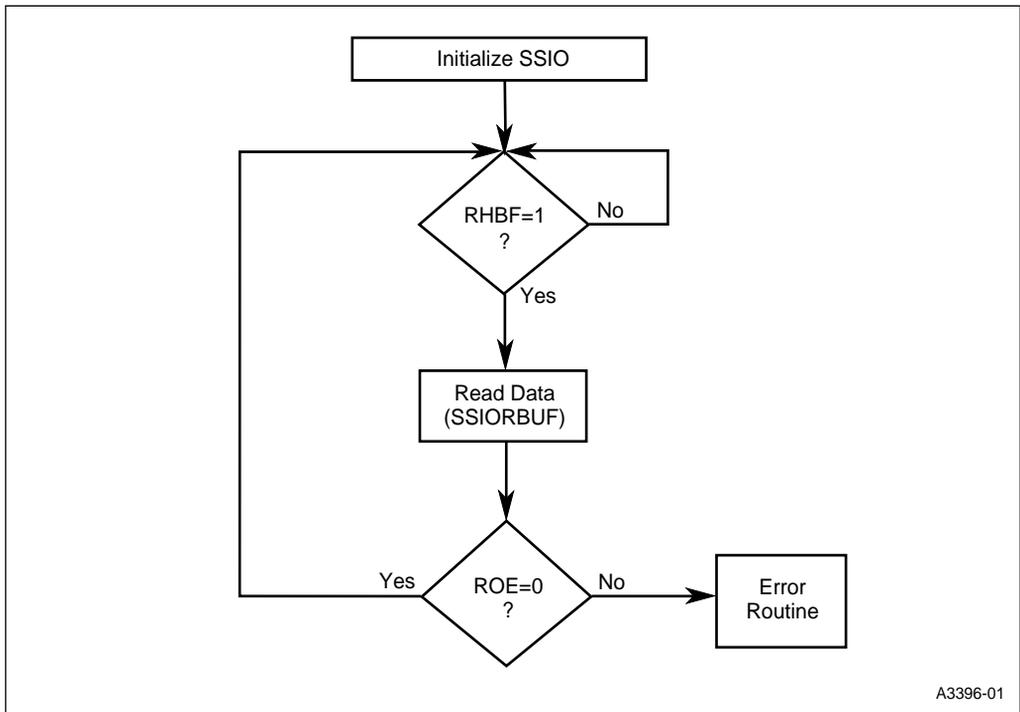

Figure 13-12. Receive Data by Polling
- Figure 13-12 shows a basic flowchart for using the polling method to receive data through the SSIO.